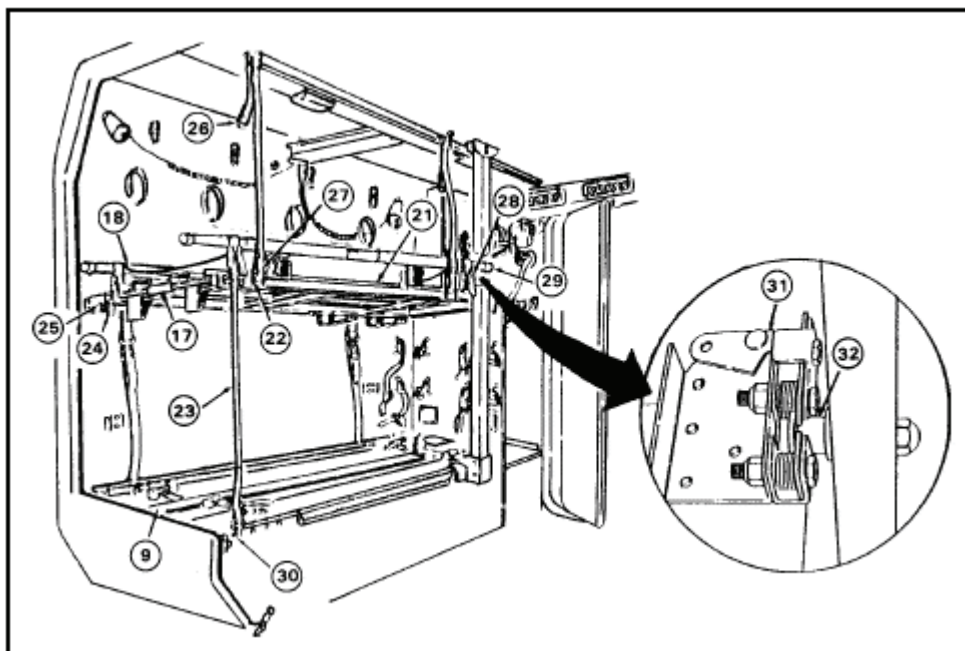

Figure 3-48. Load litters on upper litter racks
- (1) Turn latch (1) counterclockwise and open stowage compartment door (2).
- (2) Loosen and disconnect securing strap (3) and remove folded litter rail extension (4) from stowage compartment (5).
- (3) Lift tray (15) slightly and push in tray supports (16) to lower tray (15) for access to stowed litters.
- (4) Pull left and right rails (6) apart and let legs (11) drop down. Ensure feet (12) are flat on ground.
- (5) Lock support braces (13) and adjust straps (14) as necessary.
- b. Load litters on upper litter racks. Refer to Figures 3-48 and 3-49.